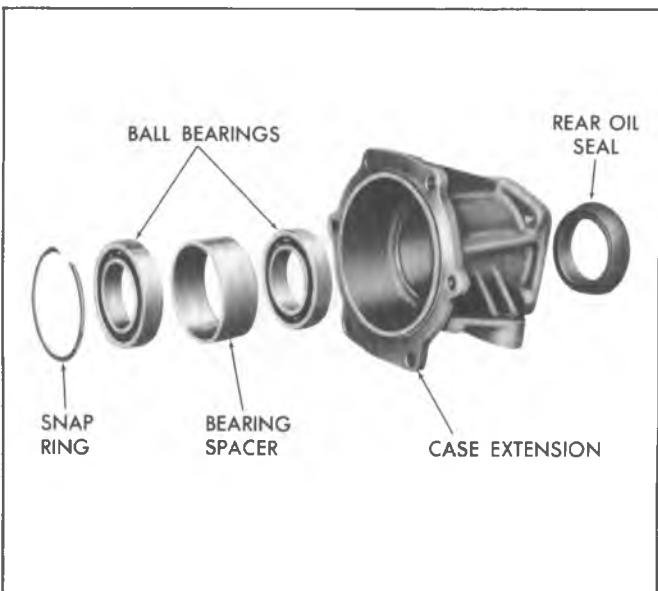

Fig. 7A-133C-Model CL Case Extension
1. Inspect modulator assembly for any signs of bending or distortion (Fig. 7A-134C).